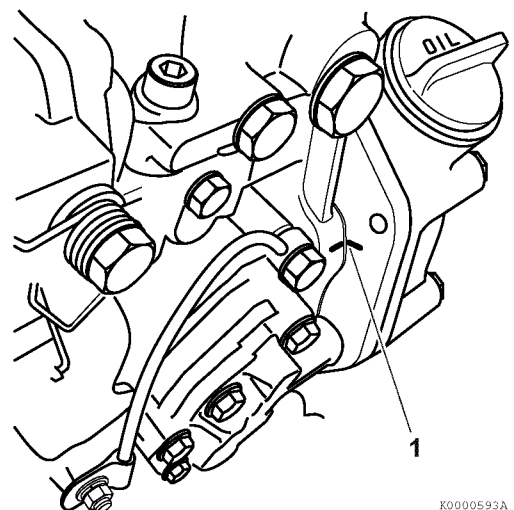

Figure 7-20
- Align the reference marks (1, **Figure 7-20**) you made on the pump mounting flange and the gear case flange.